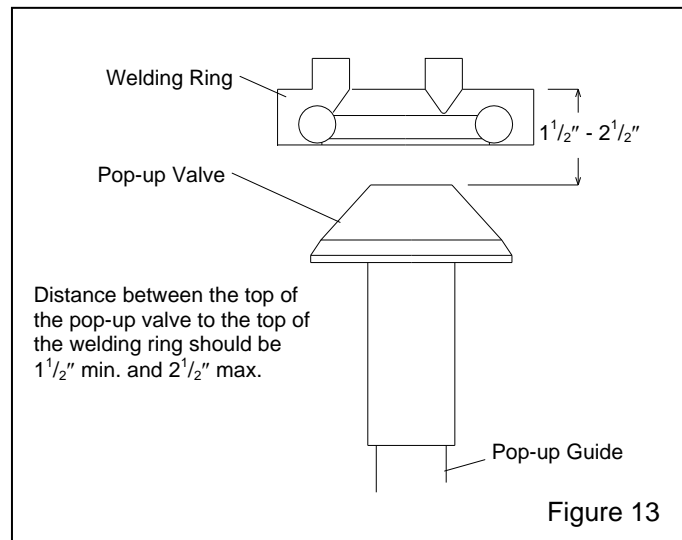

Figure 13
**6.8.6** Refer to Figure 13 to check the pop-up height. If the pop-up sits too low, misalignment could occur when the pop-up comes up against the seal. If the pop-up sits too high, it will take longer for abrasive to flow through the opening when filling. Adjust the height by replacing the guide with one that is longer or shorter.